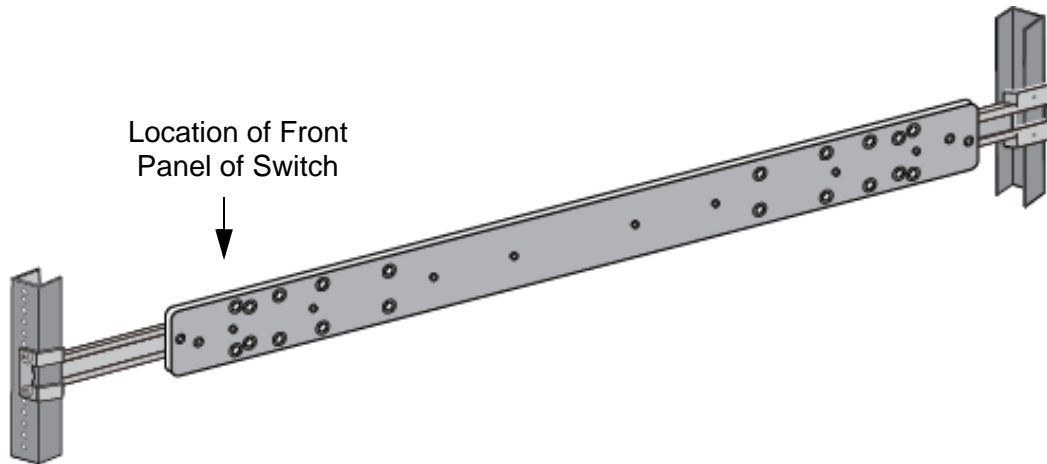

Figure 10. Example of Positioning the Inner Rail
2. Position the inner rail at the planned location for the front panel of switch in the sliding rack. Refer to Figure 10.